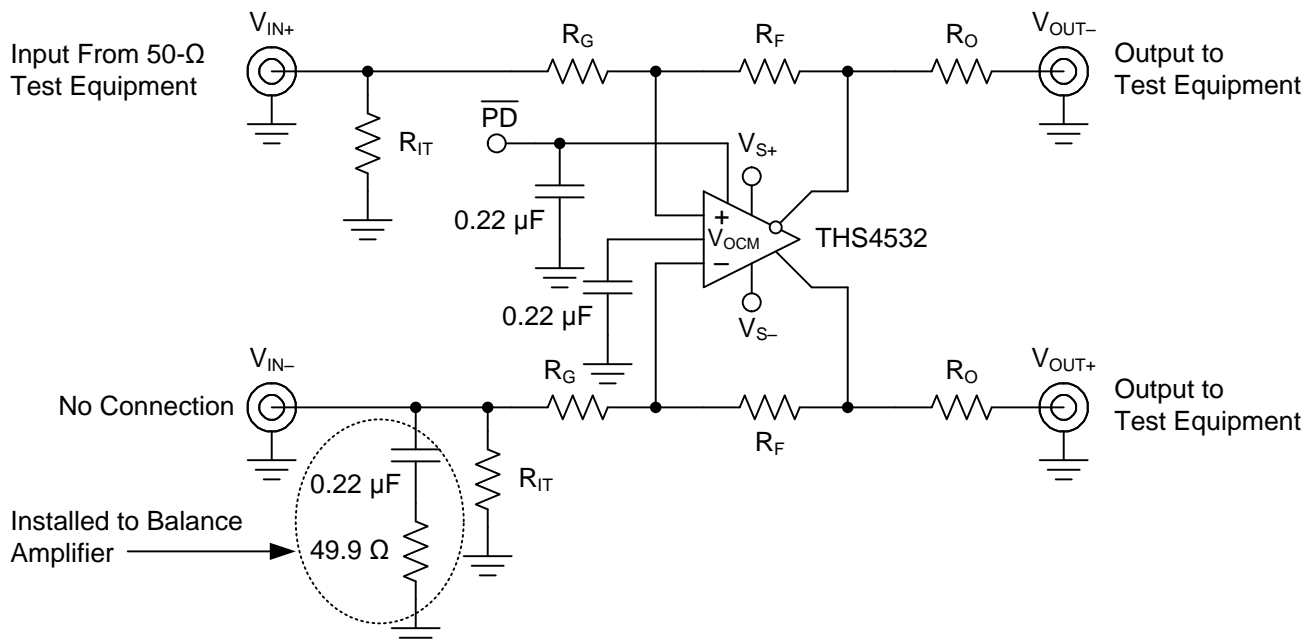
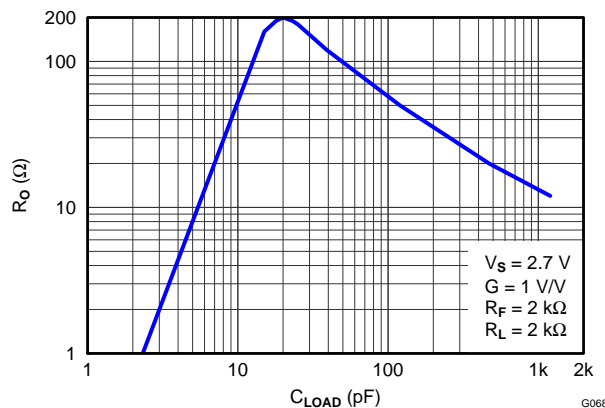
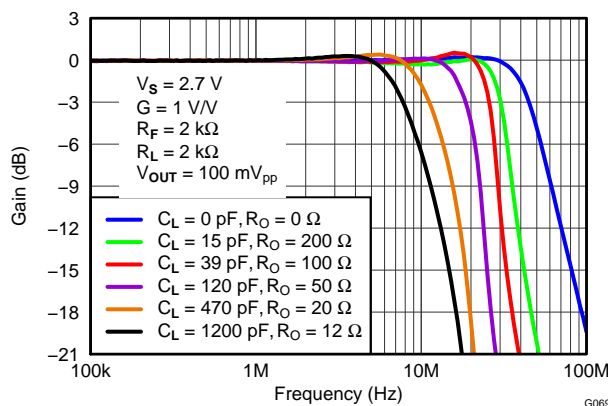

Figure 71. Slew Rate, Transient Response, Settling Time, Z_o , Overdrive Recovery, V_{OUT} Swing, and Turn-on/off Test Circuit
Figure 82. Recommended Series Output Resistor vs Capacitive Load for Flat Frequency Response
Figure 83. Frequency Response for Various R_O and C_L Values
The circuit shown in Figure 71 is used to measure slew rate, transient response, settling time, overdrive recovery, and output voltage swing. Turn on and turn off times are measured with 50 Ω input termination on the \overline{PD} input, by replacing the 0.22 μ F capacitor with 49.9 Ω resistor.
Inserting R_O will compensate the phase shift and restore the phase margin, but it will also limit bandwidth. The circuit shown in Figure 71 is used to test for best R_O versus capacitive loads, C_L , with a capacitance placed differential across the V_{OUT+} and V_{OUT-} along with 2k Ω load resistor, and the output is measure with a differential probe. Figure 82 shows the optimum values of R_O versus capacitive loads, C_L , and Figure 83 shows the frequency response with various values. Performance is the same on both 2.7V and 5V supply.
4. A series output resistor is recommended to be placed as near to the output pin as possible. See Figure 82 "Recommended Series Output Resistor vs. Capacitive Load" for recommended values given expected capacitive load of design.